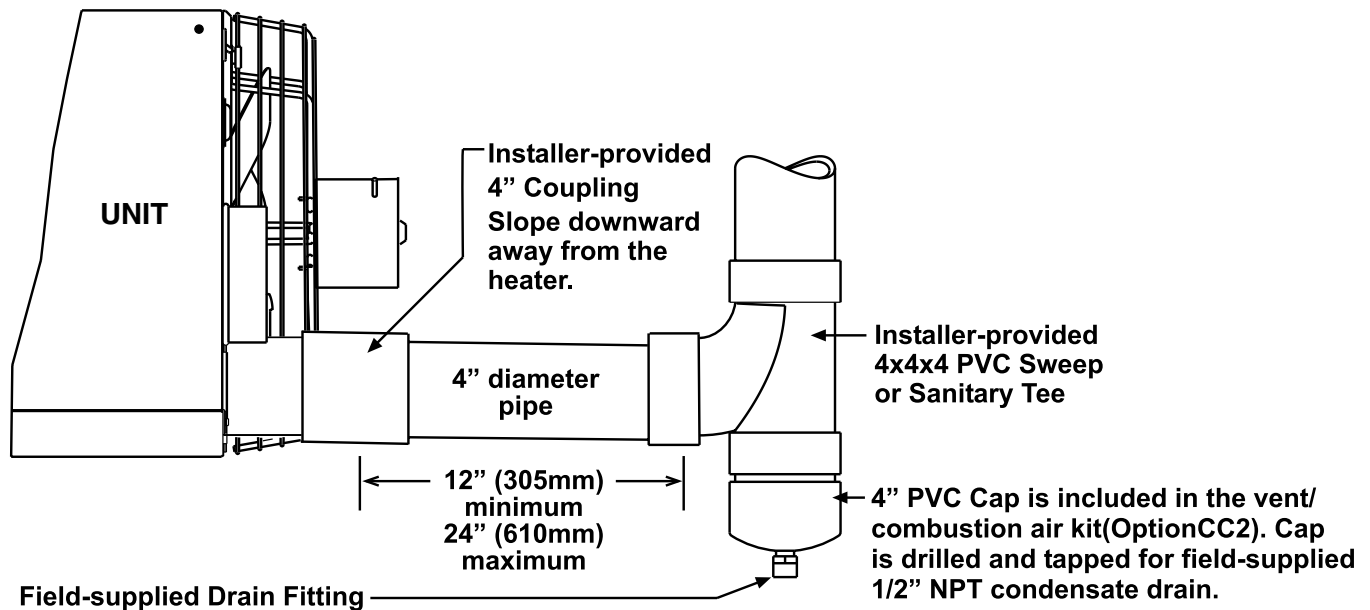

Figure 19. Installing Condensate Drain in Vertical Vent (US Installations Only)
- Instructions for installing a condensate drain connection with a vertical vent (US INSTALLATIONS ONLY) using the factory-provided 4-inch PVC cap are shown in Figure 19.